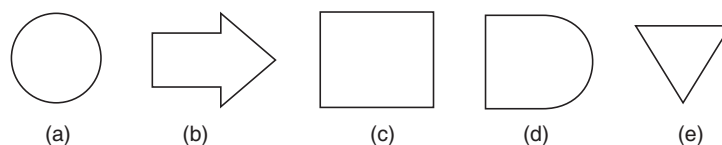

FIGURE 13.4
10. The Fig. 13.4 shows some symbols as recommended by the A.S.M.E. in work study. The symbol for transportation is given by ☐
(a) Fig. 13.4 (a) ☐ (b) Fig. 13.4 (b) ☐
(c) Fig. 13.4 (c) ☐ (d) Fig. 13.4 (d) ☐
(e) Fig. 13.4 (e) ☐ (f) none of the above. ☐
11. In Fig. 13.4, the symbol for storage is given by ☐
12. In Fig. 13.4, the symbol for inspection is given by ☐
13. In Fig. 13.4, the symbol for operation is given by ☐
14. In Fig. 13.4, the symbol for delay is given by ☐